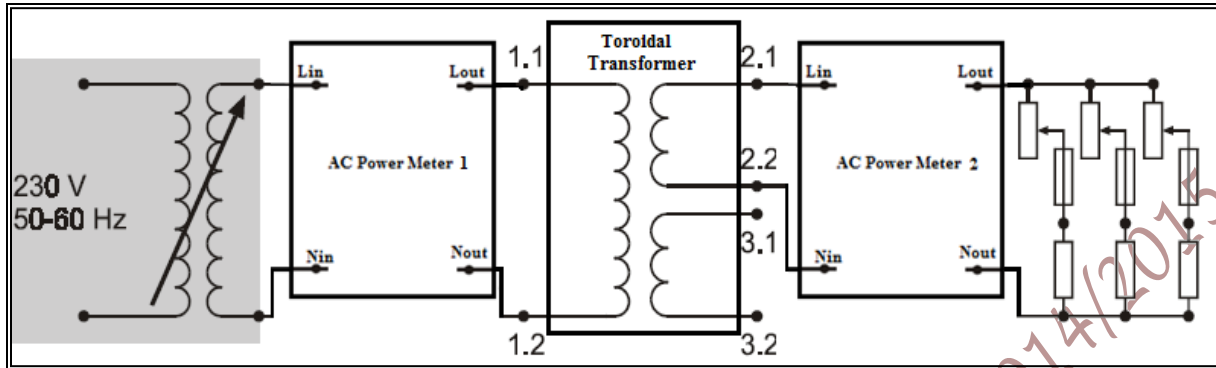

Figure 2.16: Circuit for Investigating Voltage Behavior with Resistive Load and for evaluating Efficiency
1. Change the circuit to match Figure 2.16.